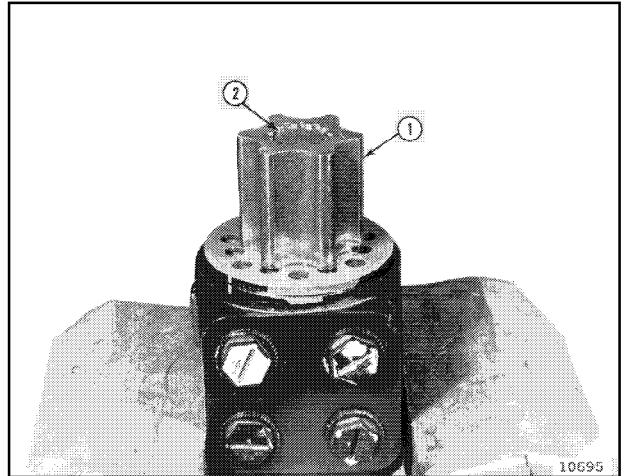

Figure 31
15. Set spacer (2, Figure 31) on drive shaft, install star gear (1) on drive spline.